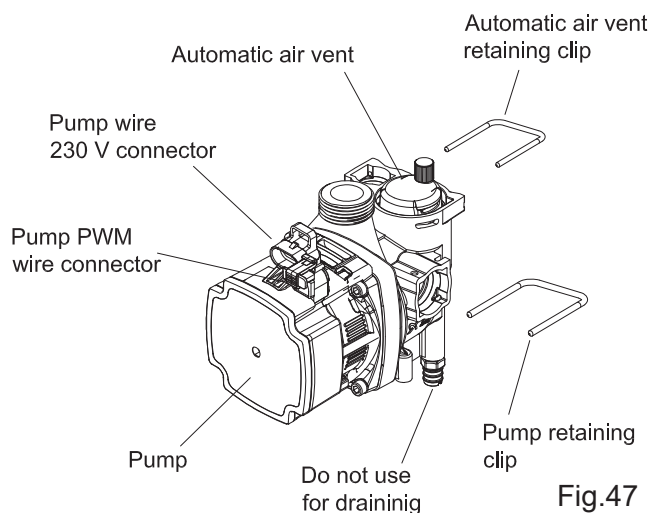

Fig.47
Remove diverter valve motor switch, to allow access and unscrew the C.H.diverter valve (fig.47).
8.15 TO REMOVE/REPLACE PUMP (Fig.47)
8.16 TO REMOVE/REPLACE AUTOMATIC AIR VENT (Fig. 47)